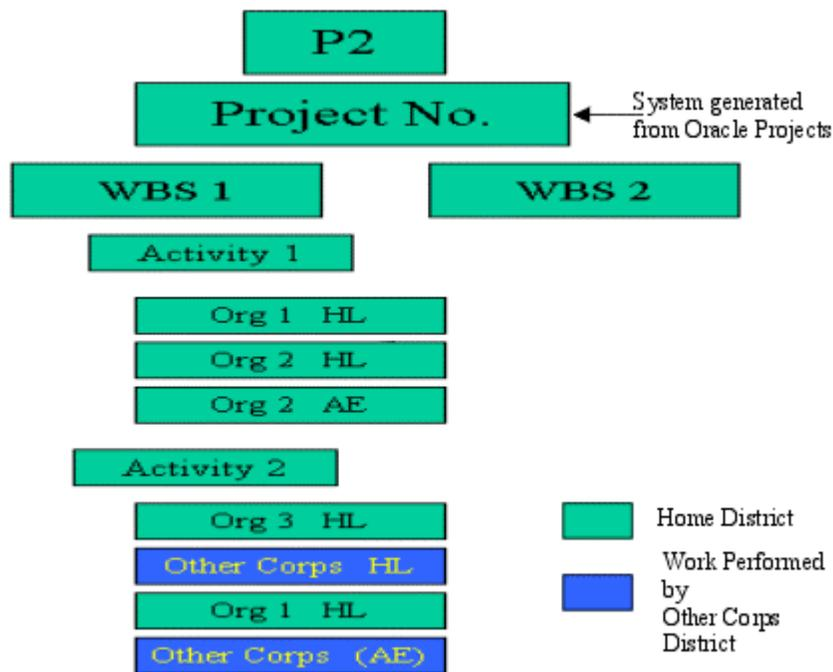

Figure 1. Project management structure.
1. *PMP Development[PROC 1012]* and related procedures define how the PMP will be developed and ultimately approved for execution. Figure 1 displays a typical WBS structure for a sample project developed in Oracle Projects/P3e (P2) to be resourced in P3e and interfaced with CEFMS for the creation of work items and PR&Cs. The WBS elements shown in green identify resource estimates for work performed in the home District. In a virtual project delivery team (PDT) environment, the blocks shown in blue identify resource estimates for work performed by another Corps district. The performing District is responsible for resourcing these activities.